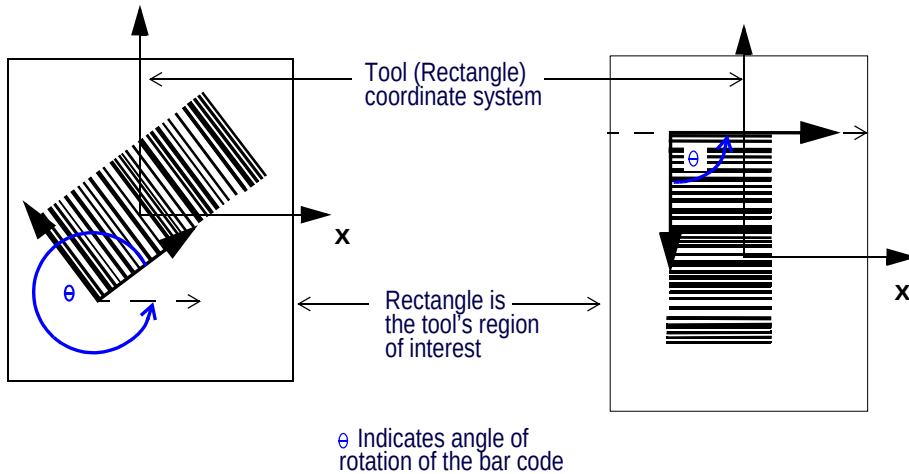

Figure 413 Bar Code Angle of Orientation
- **Angle:** The angle of orientation of a bar code is the counterclockwise angle between the bar code's X-axis and the X-axis of the Rectangle region of interest. See examples in Figure 413.